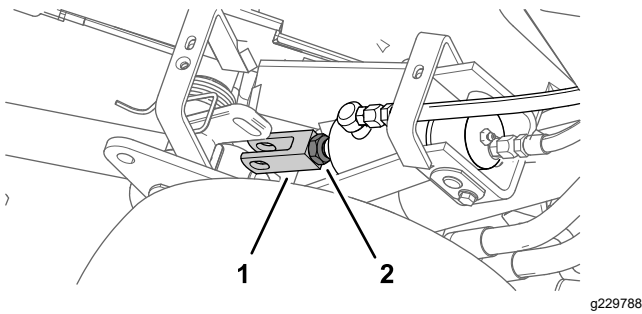

Figure 54
5. Rotate the clevis until you attain the desired height (Figure 54).
6. Assemble the clevis fitting to the lift arm with the clevis pin and retaining pin, and tighten the jam nut (Figure 53 and Figure 54).